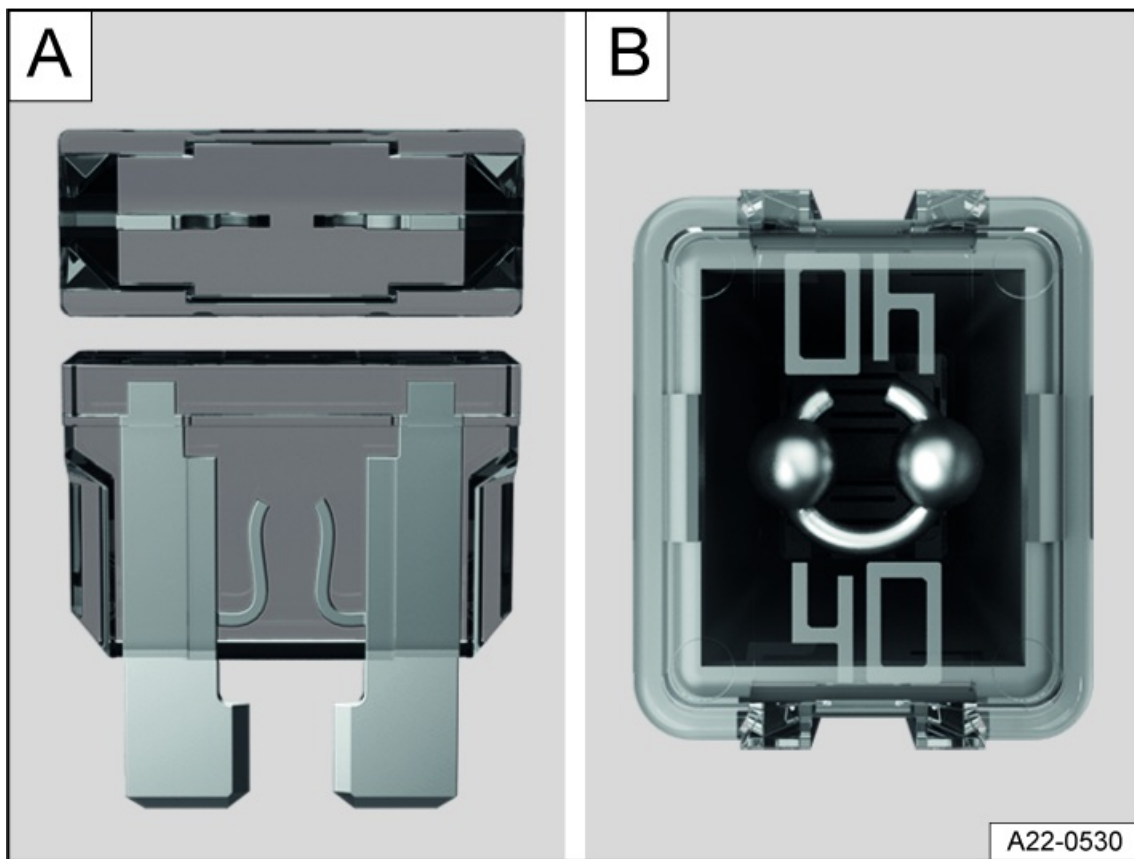

Fig. 196 Blown fuse (general example).
- A blown flat connector fuse (ATO[®], MINI[®]) has metal strips that have burned through, which you can see through the transparent housing from above and from the side fig. 196 A.
- A blown block fuse (JCASE[®]) is recognizable by the melted metal strip seen through the transparent housing from above fig. 196 B.